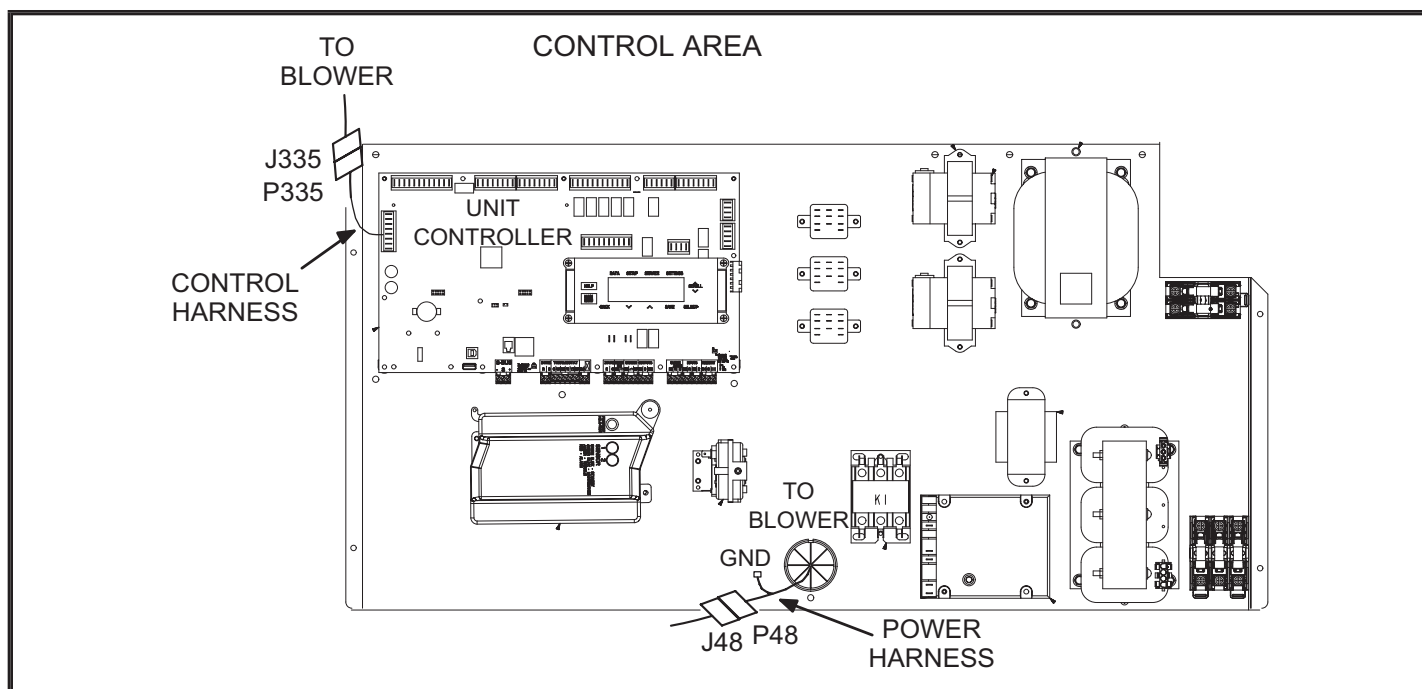

FIGURE 3
- Disconnect P48 harness (older units may require harness to be removed from control panel) and unscrew the GND terminal from the control panel. See FIGURE 3.
11 - Reconnect P48 in the same manner it was removed. Connect P48 to J48 and screw GND terminal to control panel as shown in FIGURE 3.